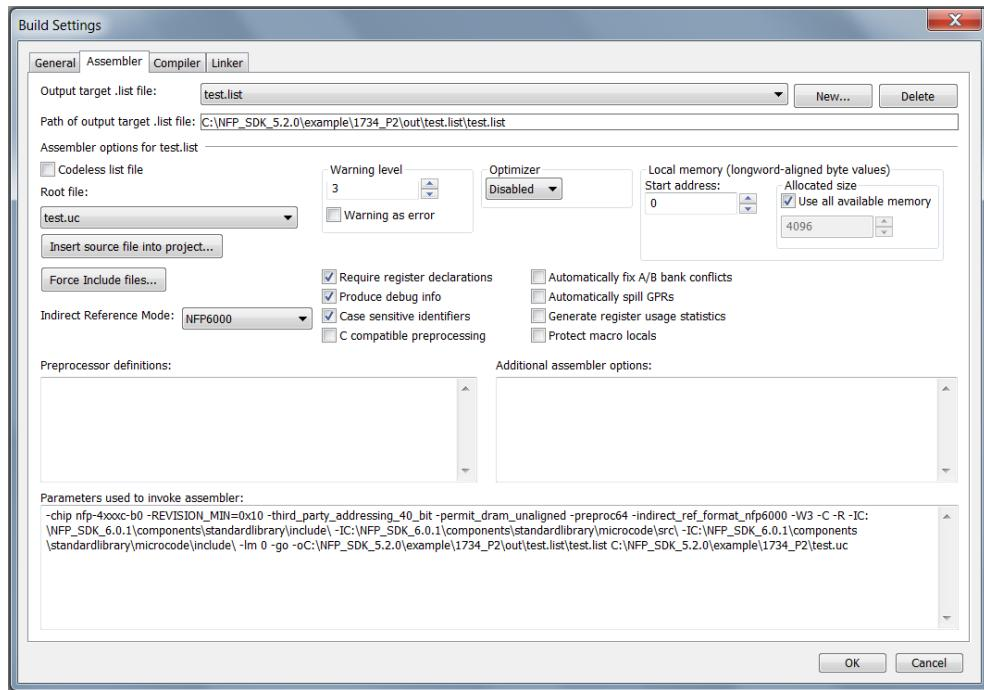

Figure 2.9. Build - Assembler Tab
2. Click the **Assembler** tab (see Figure 2.9).